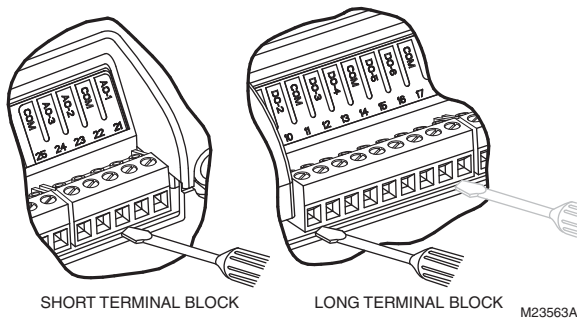

Fig. 24. Removing terminal blocks
To simplify controller replacement, all terminal blocks are designed to be removed with the wiring connections intact and then re-installed on the new controller. See Fig. 24 and refer to the following procedure.
2. Remove the terminal blocks (See Fig. 24).